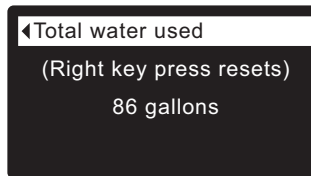

FIG. 60
6. The **Total water used** screen (See Figure 60) shows the volume of water used since it was last reset (it works like the trip odometer in a car). To reset the value to 0, press the RIGHT (►) button while this screen is displayed.